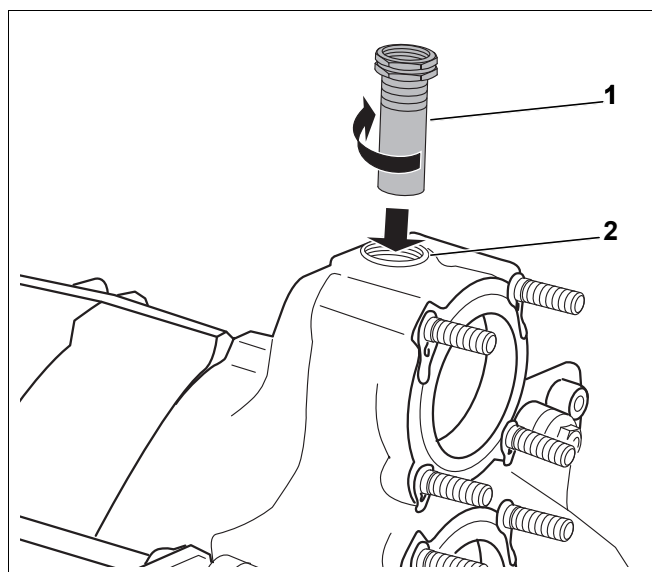

Fig. 20 Sensor well installation
- Seal the sensor well  $\frac{3}{4}$ " (Length: 110 mm) (→ Fig. 20, [1]) from above into the  $\frac{3}{4}$ " threaded hole of the flow connection (→ Fig. 20, [2]).